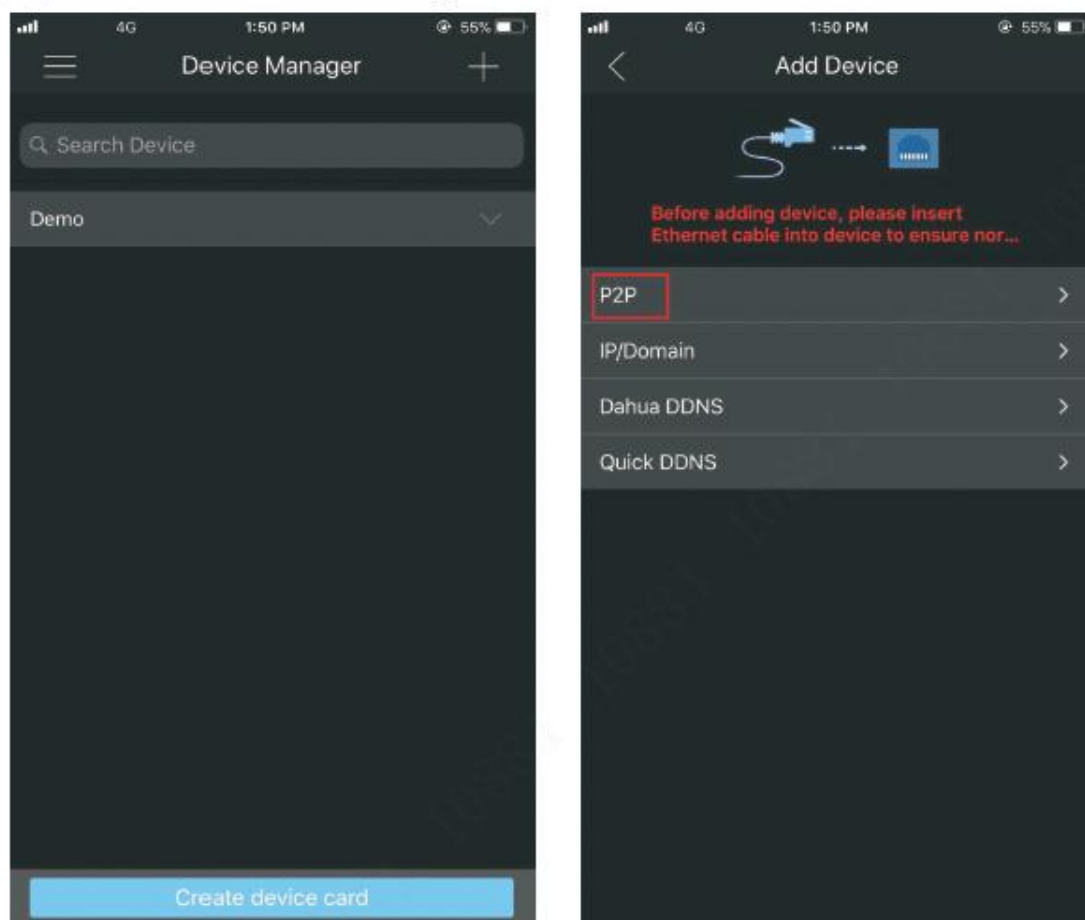

Figure 6-2
- 2) Tap P2P to add the device. See Figure 6-2.